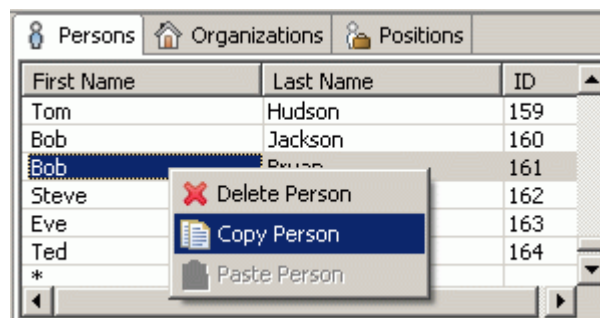

Figure 1. Context sensitive menu in Persons panel, Copy Person
- Right click on an applicable person in the table list. A context sensitive menu appears (see Figure 1).